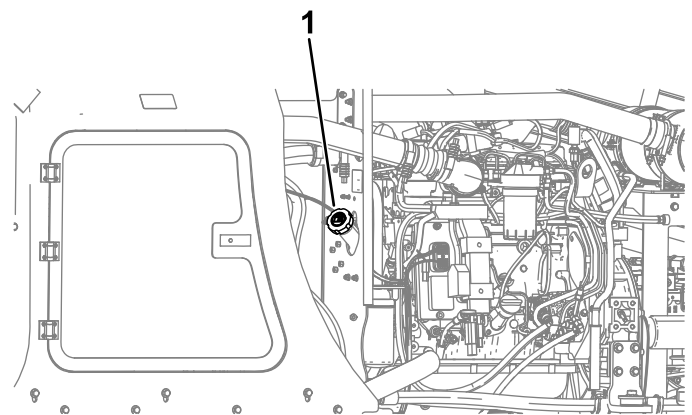

Figure 66
3. Remove the cap from the fuel tank (Figure 66).